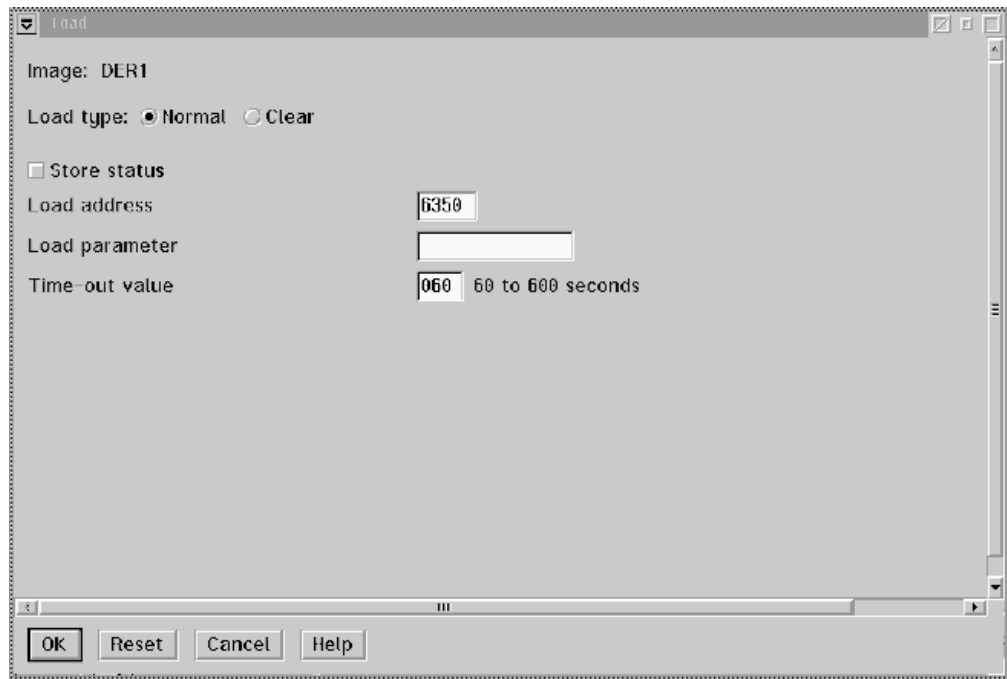

Figure 69. Load panel for booting from DASD or tape
- a. Select **Load type** “Normal” (see Figure 69).